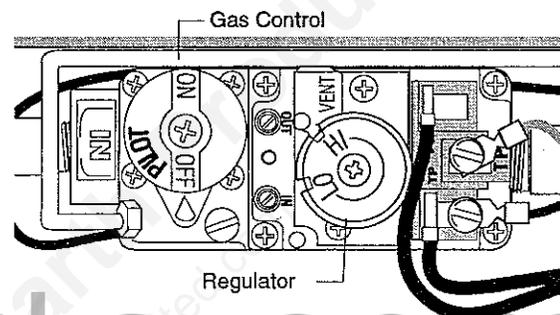
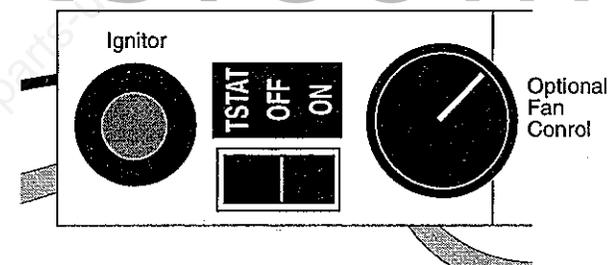

FIGURE 37. Control Valve
FIGURE 38. Piezo Ignitor and OFF/ON Switch
2. If the pilot is already lit, proceed to "Relighting the Fire" below. Before you light the pilot, make sure that the valve is in the off position by pushing in the gas control knob slightly and turning it clockwise to **OFF**. Fig. 37. Set the Regulator knob to the HI position. Also, put the On/Off/T'stat remote switch in the **OFF** position. Fig. 38.
The DV40 control valve incorporates a regulator that allows you to manually adjust burner heat output. The regulator should be set at HI when igniting the burner. See Fig. 37.